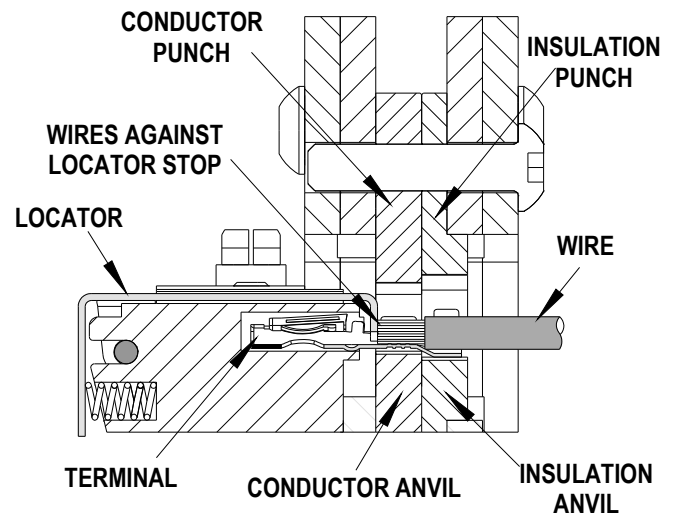
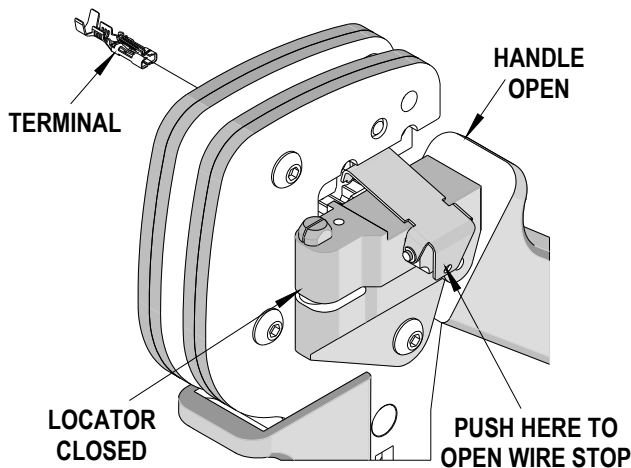

Figure 4
Figure 5
2. Swing the terminal locator away from the crimp tool shown in Figure 3. Some terminals with large insulation grips may interfere with the crimp tooling when swinging the locator into position. The terminal must then be loaded into the locator in the closed crimp position. See Figure 4.
3. Press down on the wire stop on the locator as shown in Figure 5. Insert the proper terminal into the proper nest opening. Make sure when choosing the nest opening, it will correspond with the A, B, or C profile on the hand tool. See Figure 4.
5. Insert the proper wire over the terminal. Gently touch the wire stop with the end of the wire. See Figure 5 and 6.